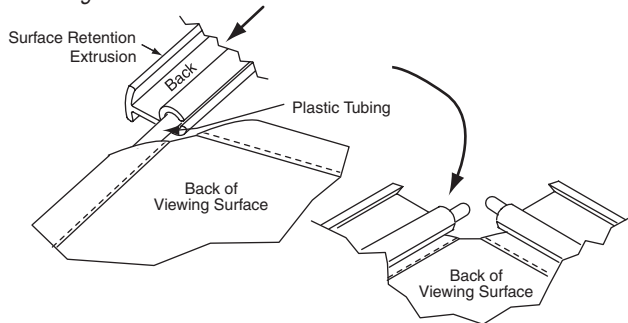

Figure 7
- ③ **Carefully** slide surface retention extrusion (rounded edge visible) along hem and onto surface on all 4 edges of fabric (see Fig. 7). **Caution: Do not allow fabric to snag on the ends of the extrusions. If the screen fabric is not parallel with the surface retention extrusion, then it may slit and tear during installation.** **Please Note: To make this step easier, pinch the end of the pocket closed before sliding it into the surface retention extrusion.**